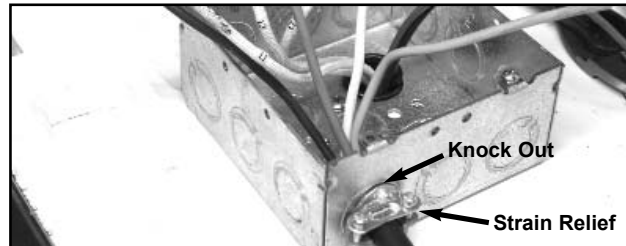

Figure 3
5. Insert Black Supply Cable and Straight Strain Relief through Knock Out. Install Lock Nut and tighten. See **Figure 3**.